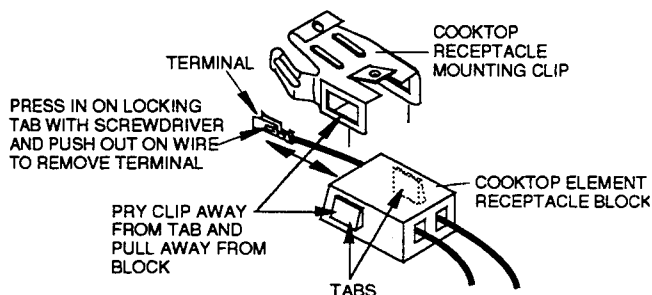
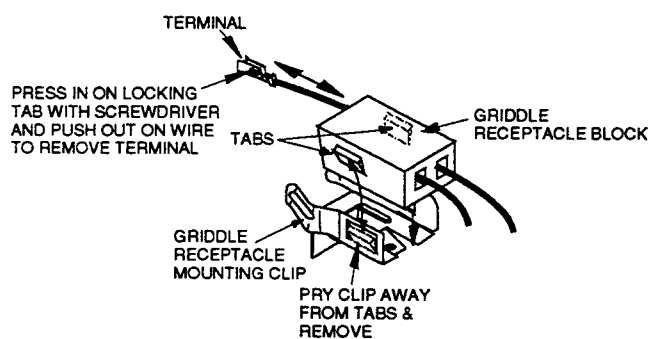

FIGURE 4-10
FIGURE 4-11
To replace a defective receptacle block mounting clip for the cooktop element (see Figure 4-10), or the griddle element (see Figure 4-11), perform the following steps.
To replace a defective terminal in a receptacle block (see Figures 4-10 or 4-11 on the previous page), perform the following steps.
5. Position the terminal as shown in Figure 4-10 or 4-11, and pull it into the receptacle block opening until the locking tabs "click" into place. Push out on the wire to make sure that the terminal is seated properly.